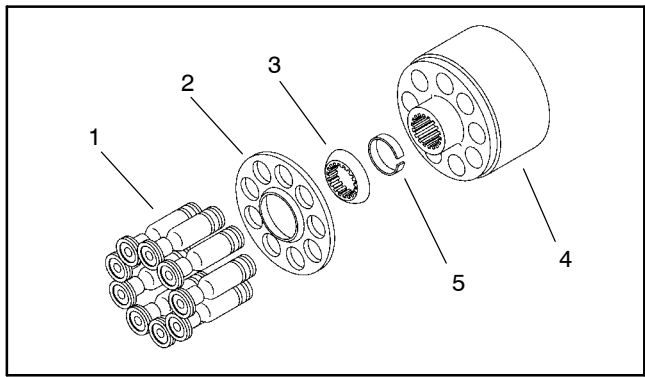

Figure 49
- A. The finish on the piston shoe surfaces of the camplate (11) should show no signs of scoring.
- B. Inspect camplate (11) bushing surface for wear. Also inspect surface for coating transfer from bushing.
4. Inspect bushing (44) for contamination embedment within coating of bushing surface coming in contact with camplate (11).
5. Inspect rotating kit (Fig. 49):